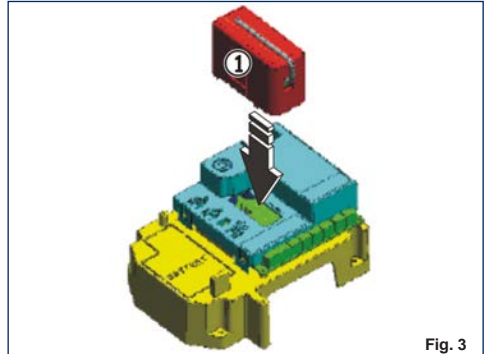

Fig. 3
The control board has an integrated 2-channel decoding system. This system makes it possible to memory-store both total opening (OPEN A) and partial opening (OPEN B) of the automated system - this is made possible by an additional receiver module (fig.3 ref. ①) and radio controls on the same frequency.
- ① • **Only one** radio code can be used at a time.